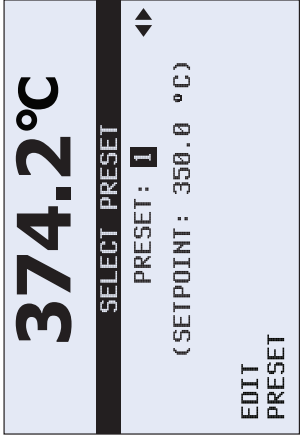

Figure 21. Preset Selection
3. Push **0** or **0** to move between presets (1 through 8). In Figure 21, the temperature of the preset is shown in the display.